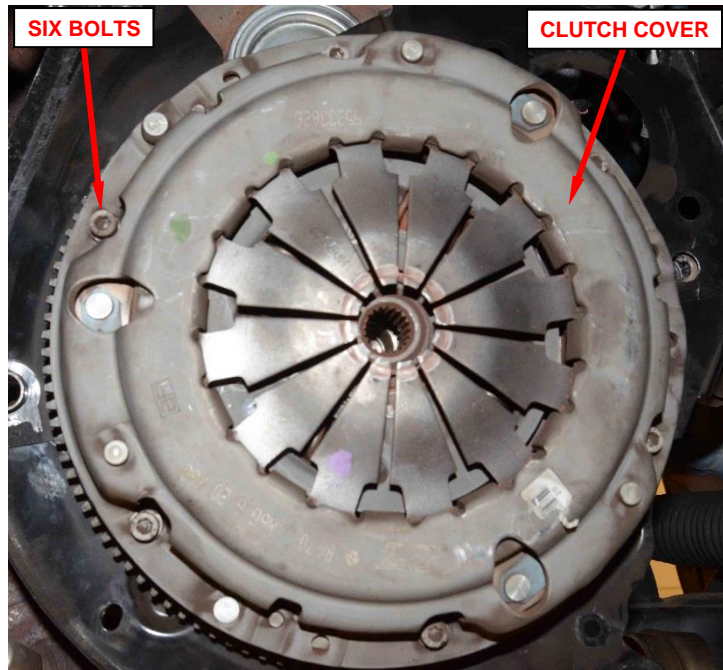

Figure 56 – Clutch Cover Bolts
66. Remove and **DISCARD** the six clutch cover bolts (Figure 56).